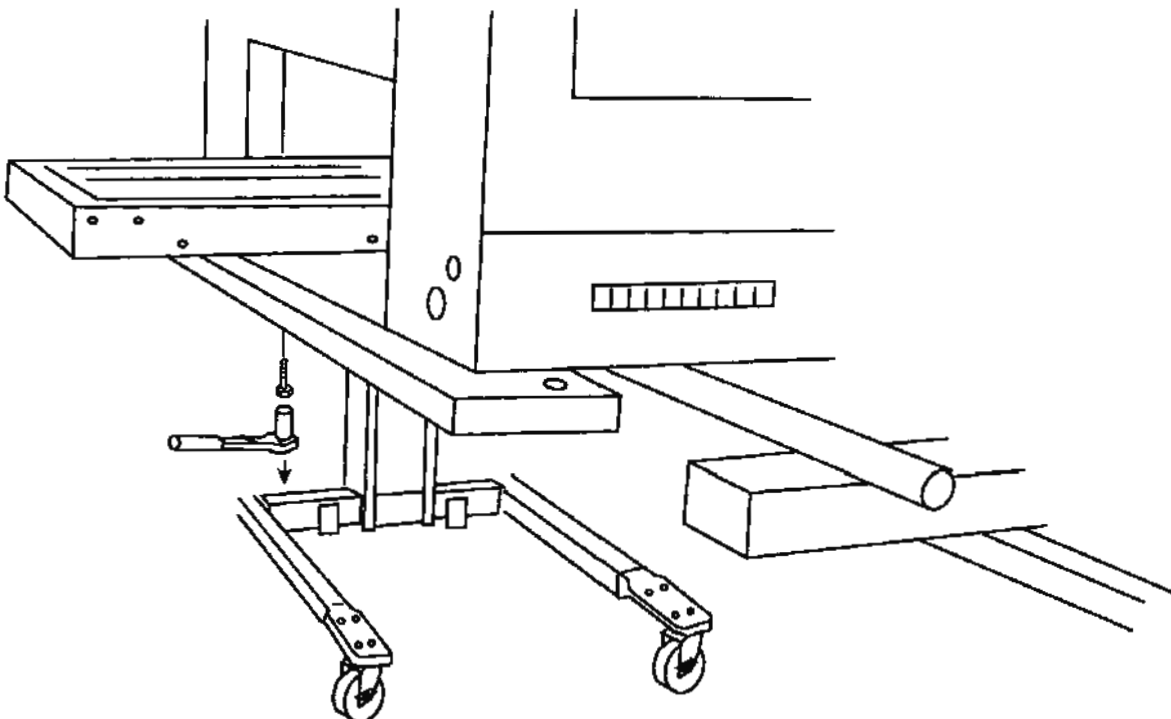

Figure 2-5
4. Elevate the oven high enough to allow the base assembly to be moved underneath. From below the oven remove the four bolts that hold the two wooden cross members to the oven bottom. Refer to Figure 2-5.